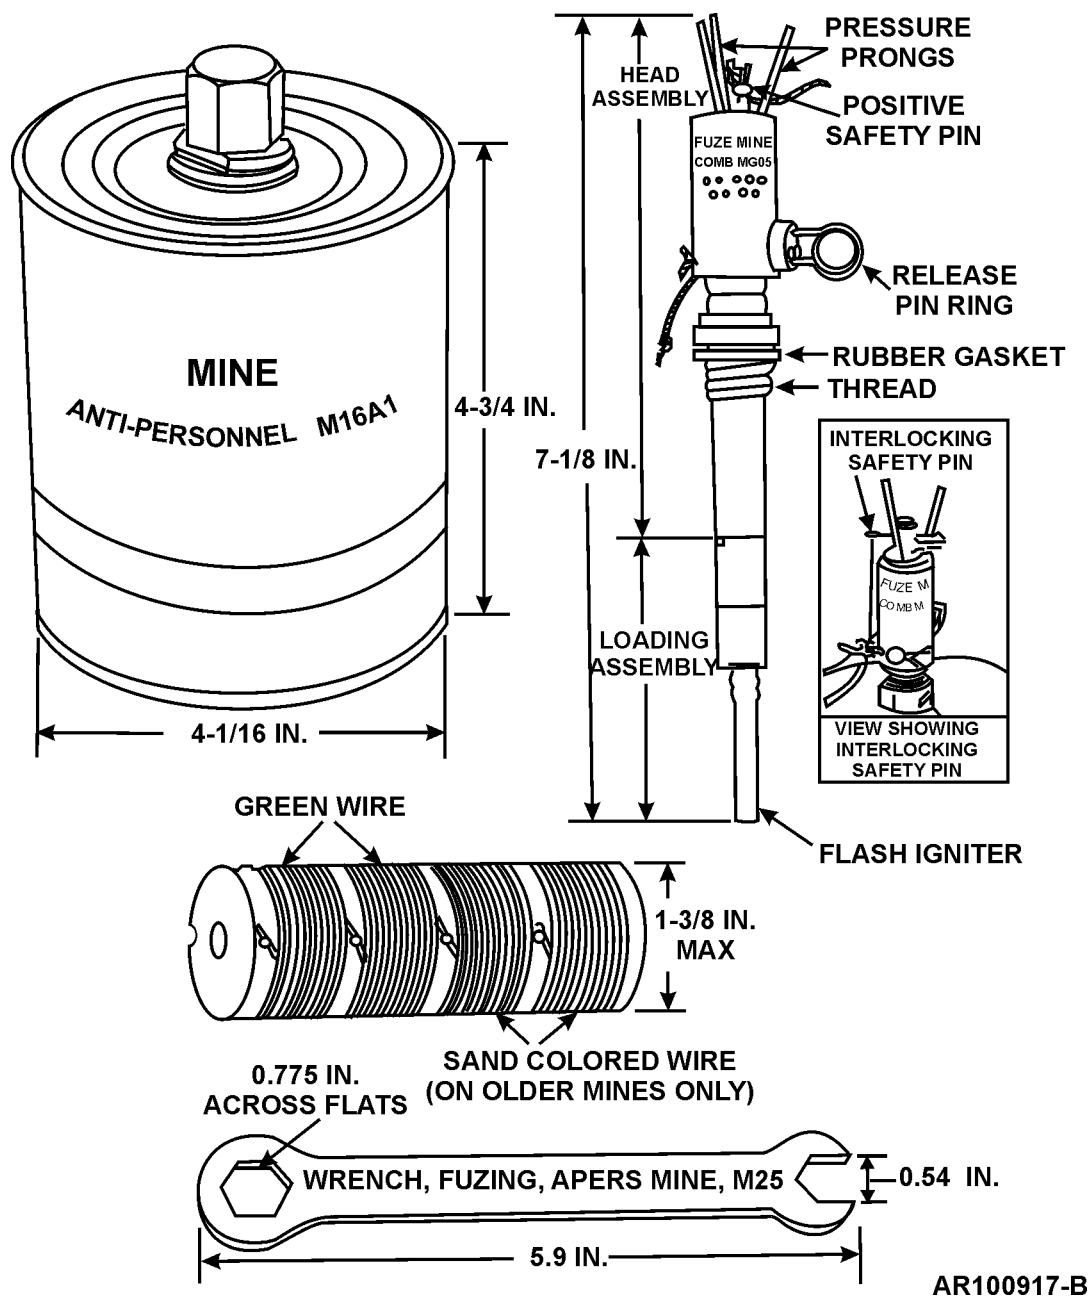

Figure 2-5. Mine, antipersonnel: M16A1, with fuze, mine antipersonnel: M605, with tripwire and fuzing wrench M25.
- (1) Remove mine from packing box and examine. If mine is dented, cracked, or otherwise damaged, do not use.
- (2) Unscrew hexagonal plastic shipping plug from fuze well of mine with closed end of fuze wrench M25 (fig. 2-5). Retain shipping plug for future use if required to disarm mine and move to another location.
- (9) Dig hole about 6 inches deep and 5 inches in diameter.
- (10) Place mine in hole. Sympathetic detonation will occur when mines are laid 1.5 to 2 meters apart. For pressure operation, continue with (11) below. For tripwire operation proceed to (12) below.
- (11) Bury mine with fuze pressure prongs extending slightly above ground level.
- (b) Remove locking safety pin; then remove interlocking safety pin from positive safety pin (fig. 2-5). Retain safety pin for future use if required to disarm mine and move to another location.
- (1) Check mine and area for boobytraps. If clear, proceed.
- (2) Carefully uncover top of mine.
- (3) Examine mine for evidence of malfunctioning, damage, or tampering.
- (4) If mine does not appear to be damaged or tampered with, carefully insert original safety pin, if available, or length of steel wire or nail of proper diameter through positive safety pin hole.
- (5) Insert safety pin, length of steel wire, or nail through locking safety pin hole (fig. 2-5) opposite release pin ring.
- (6) After safeties have been inserted, cut all slack wires attached to release pin ring.
- (7) Carefully dig around sides and bottom of mine, always being alert for boobytraps.
- (8) Lift mine from ground.
- (9) Unscrew and remove fuze assembly.
- (10) Replace plastic shipping plug in fuze well.
- (11) Restore mine and fuze to original condition, if possible.
- (12) Replace mine and fuze in packing box.